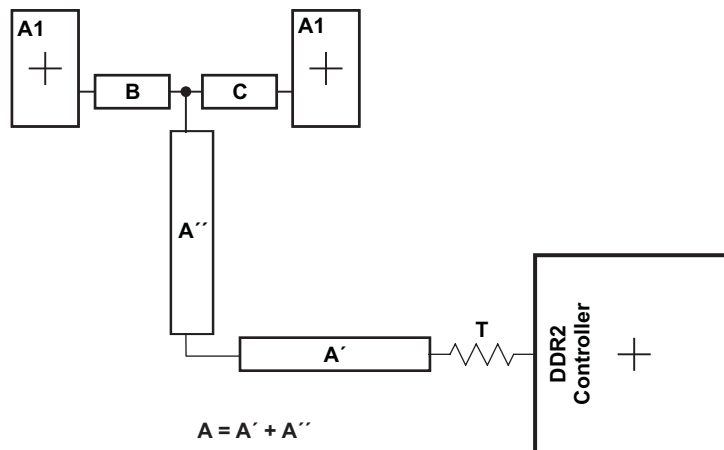

Figure 8-10. CK and ADDR_CTRL Routing and Topology
Figure 8-10 shows the topology of the routing for the CK and ADDR_CTRL net classes. The route is a balanced T as it is intended that the length of segments B and C be equal. In addition, the length of A ($A'+A''$) should be maximized.
- (1) The length of segment $A=A'+A''$ as shown in Figure 8-10.
(2) Center-to-center spacing is allowed to fall to minimum (w) for up to 500 mils of routed length to accommodate BGA escape and routing congestion.
(3) CACLM is the longest Manhattan distance of the CK and ADDR_CTRL net classes.